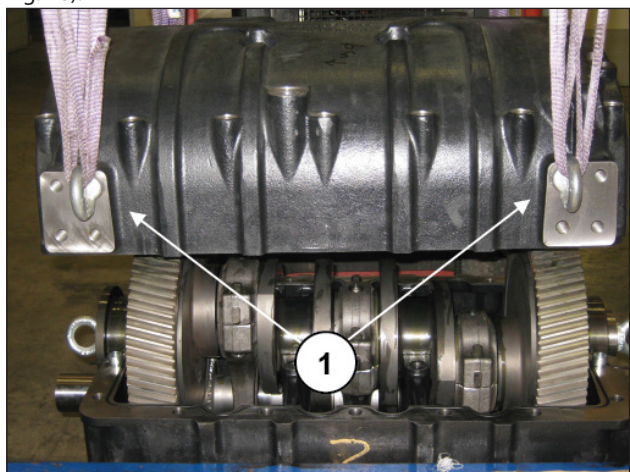

Fig. 26
To remove the rear casing first remove the feet affixed to it and use four M16 threaded holes to fit the lifting eyebolts (pos. ①, Fig. 26).